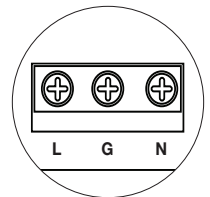

Fig. 1
- Secure cabinet to earth ground. Connect AC power from overcurrent protective device circuit breaker (20A @ 115VAC, 60Hz, 16A @ 230VAC, 50/60Hz) to the terminals marked [L, N] on power supply board (*Fig. 1, pg. 4*). Use 14AWG or larger for all power connections (Battery, DC output, AC input).